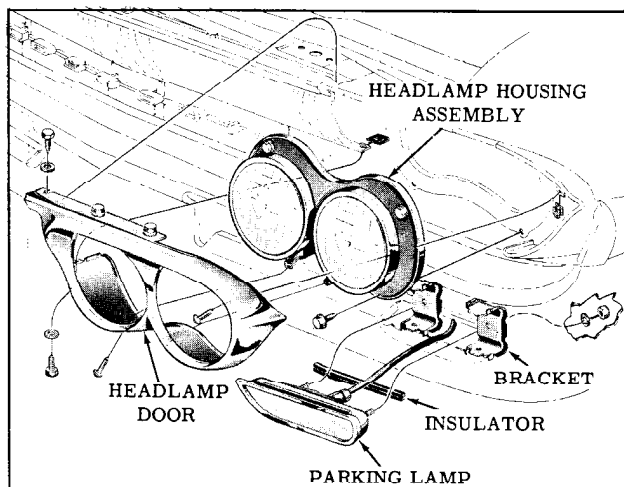

Fig. 11-23 Headlamp doors and Housing
2. Remove headlamp doors attached by seven screws. (Fig. 11-23)
The parking lamp assemblies may be removed by disconnecting the wiring and removing the four stud nuts and two clamps, and removing the clamp from the rear of the stone shield. (Fig. 11-23)